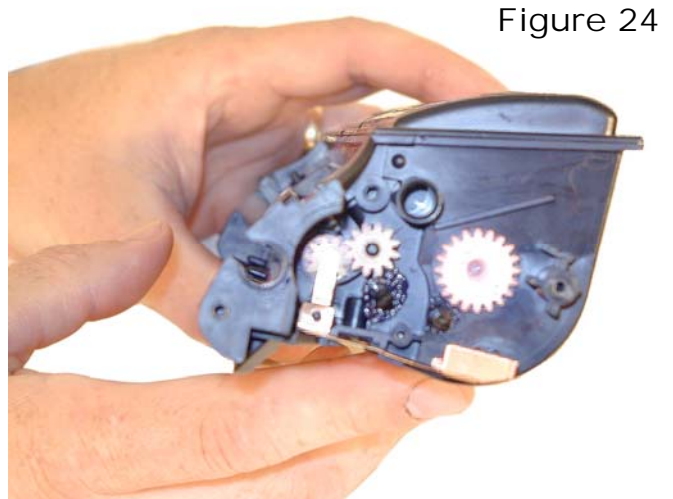

Figure 24
18) Check to ensure that the contact to the feed roller is clean, and that the two gears are clean and greased. If not clean them and re-grease the gears with white lithium grease. See **Figure 24**